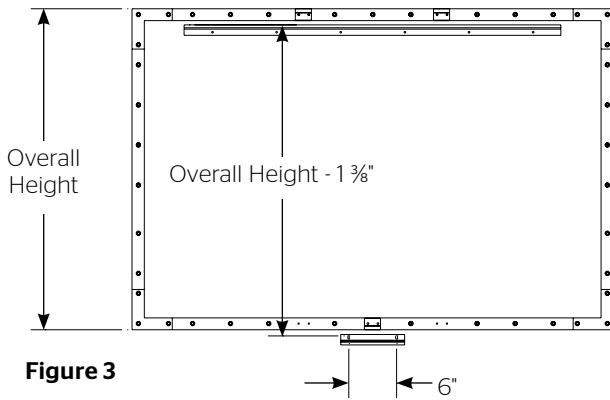

Figure 3
3. To install the small wall bracket, you must measure the overall height of the screen frame and subtract $1-3/8"$. Using that dimension, measure down from the top edge of the large wall bracket and mark the wall for two screw holes. The holes should be centered within the frame and $6"$ apart. Refer to Figure 3.